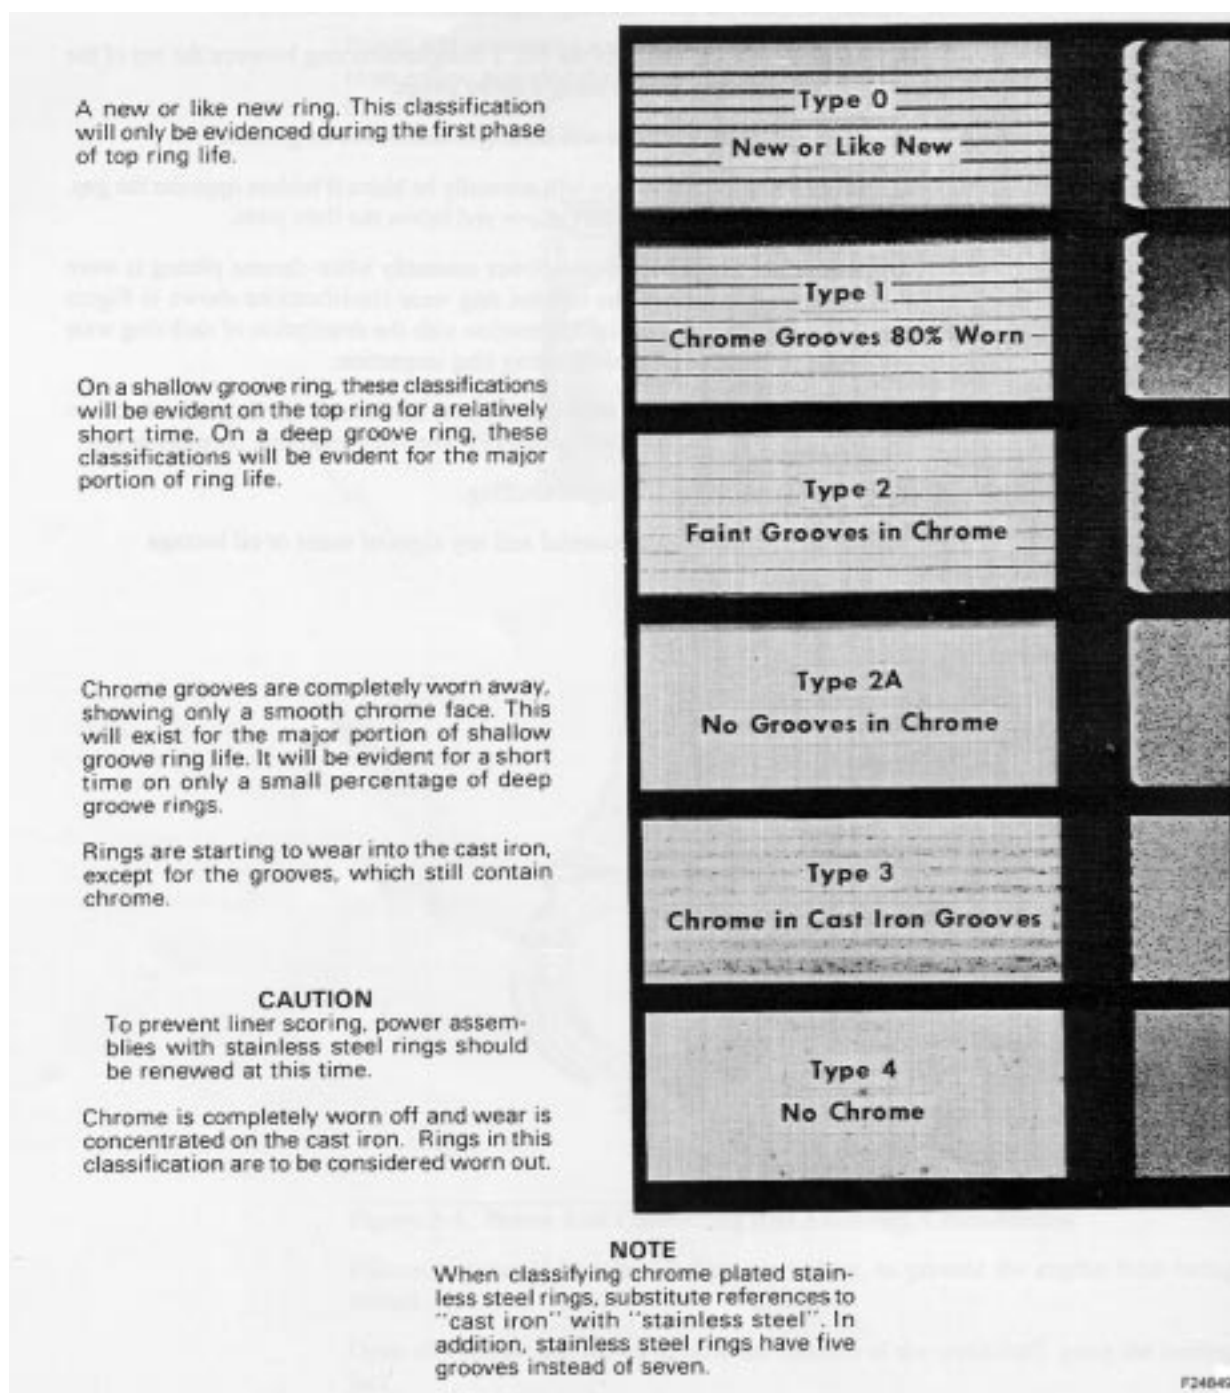

Figure 3-5. Chrome Ring Wear Classification
- D. Worn ring. Renew or replace power assembly when chrome plating is worn through on first ring. The chrome ring wear classifications shown in Figure 3-5., on page 3-6, used in conjunction with the description of each ring wear “type” will serve as a guide during ring inspection.